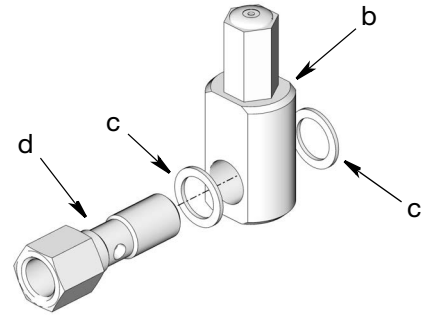

FIG. 23
- c. Install one washer (c) over end banjo bolt (d). Then install banjo fitting (b) on banjo bolt, followed by the second washer (c) (FIG. 23).